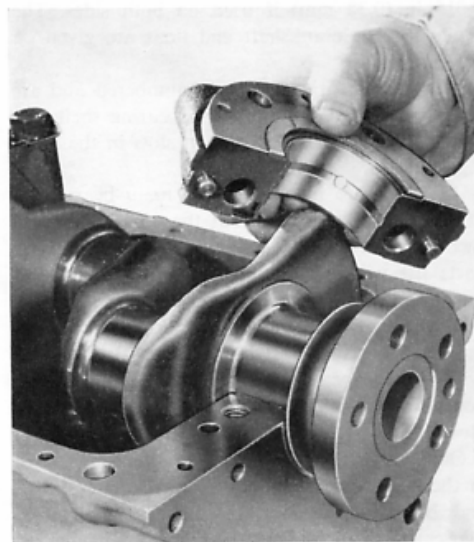

Fig. K.4.
3. Remove rear main bearing cap and from it the two lower half thrust washers. (Refer Fig. K.4).